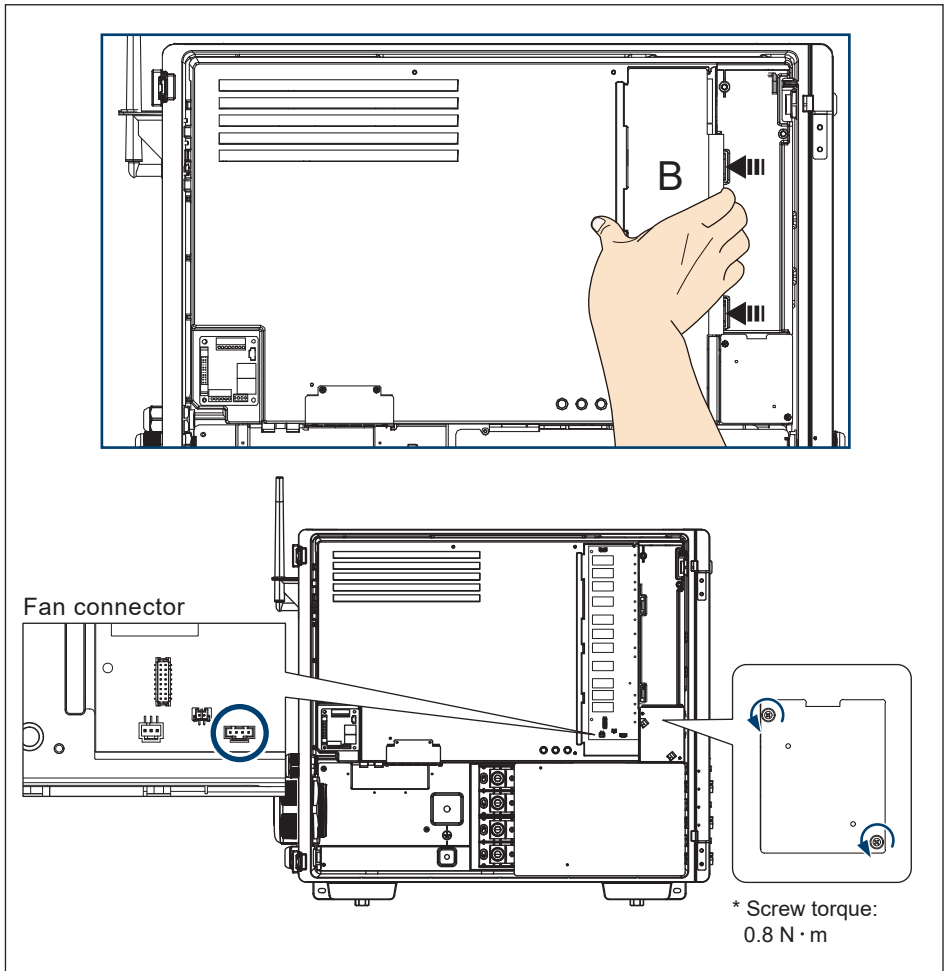

Figure 5-12: Internal fan 1 location & remove the shield cover
To reassemble reverse the order of the above procedure and tighten screws to torque values indicated in **Figure 5-12**.
- (1) Remove the B cover. **(Figure 5-12)**
- (2) Disconnect the power connector on the LED board. **(Figure 5-12)**